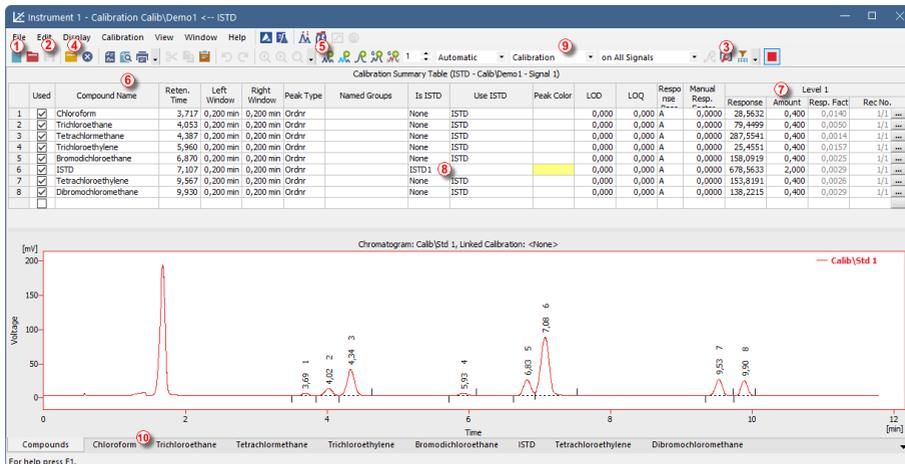

Fig. 17: The Calibration window - loaded standard
- Clicking on a cell in the *Result table* ① will color the peak (or peaks when selecting multiple cells) corresponding to the row(s) you just selected.
- Only one detector signal can be active at a time. The active signal can be identified in three ways: first, in the legend section at the upper right corner of the graph ②, where the active signal is displayed in bold text; second, in the
- To add color to a peak permanently, click the *View* button  in the right side of the **Results** tab. This will get you to the linked calibration file. There, in the *Calibration Summary Table*, find the *Peak Color* column (see **Fig. 17** on pg. **28**). In the row corresponding to the peak to be colored, select the desired color by clicking in the field and selecting the  icon. Pick the desired color and click *OK*. You will be asked to save the changes upon closing the *Calibration* window. Return to the *Chromatogram* window by using the  icon in the menu bar. The selected peak is now colored according to the color selected in the *Calibration* window.
- Use the *Open Standard*  icon (yellow) ④ to open the STD 1.PRM data file. The lower part of the *Calibration* window now displays the chromatogram of the calibration standard.
- Use the *Add All*  icon (blue) ⑤ to move all identified peaks to the Calibration Summary Table. The Table appears in the *Calibration* window, ready to be completed as shown on **Fig. 17** on pg. 28.
- As demonstrated in the Calibration Summary Table and the Chromatogram, individual peaks are now identified according to their retention times only. To label the peaks, click and edit the fields in the *Compound Name* column ⑥ to the names shown on **Fig. 17** on pg. 28. You may also set the color of a specific peak in the *Peak Color* column, for example, try to set the ISTD peak color to yellow. Note that the changes made will not immediately affect the current chromatogram.
- Fill the *Amount* column ⑦ with the concentration of the particular compounds. In this standard mixture, all compounds except for the peak number 6 (ISTD) have the amount of 0.4.
- Peak number 6 is marked as the ISTD peak. In the *Is ISTD* column change its type to ISTD1 ⑧ and then set its amount in the *Amount* column to 2.